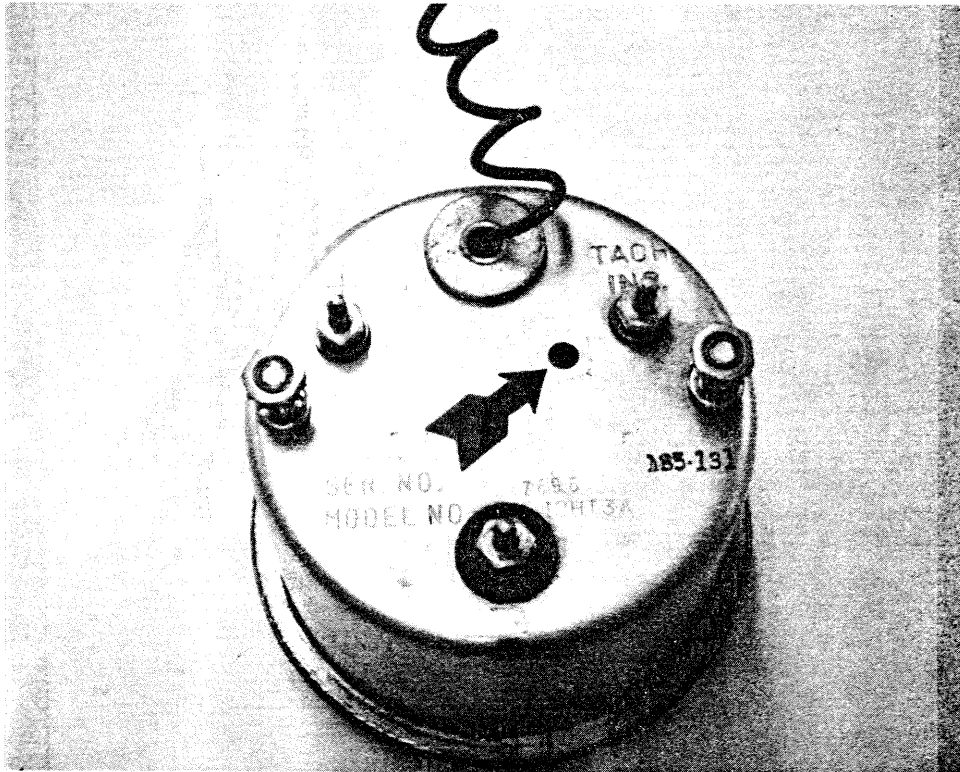

FIGURE 3
2. Remove plastic cover from access hole in rear of tachometer housing, see FIGURE 3, note arrow.